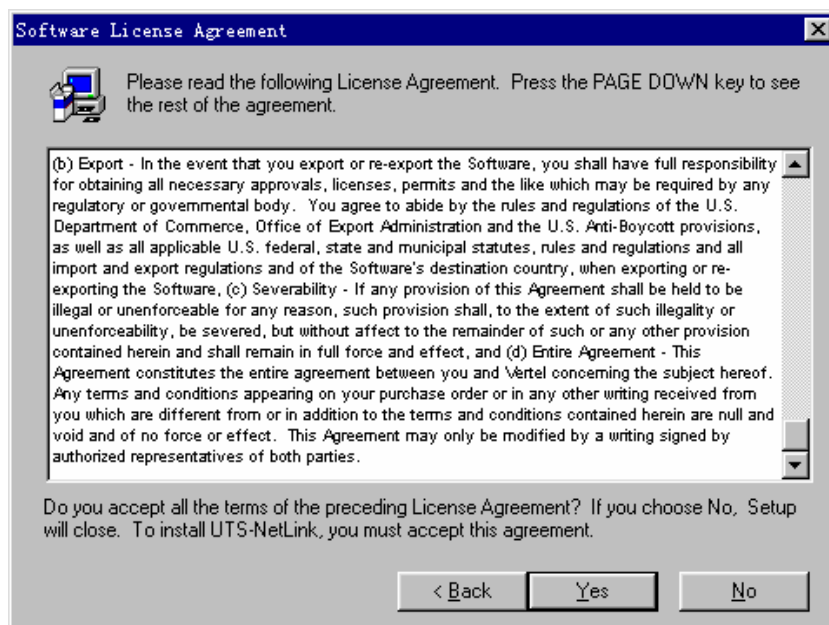

Figure 2-52 [Software License Agreement] dialog box
- 2) After the InstallShield Wizard is prepared, the [Welcome] dialog box is displayed. Click <Next>. The [Software License Agreement] dialog box is displayed, as shown in Figure 2-52.